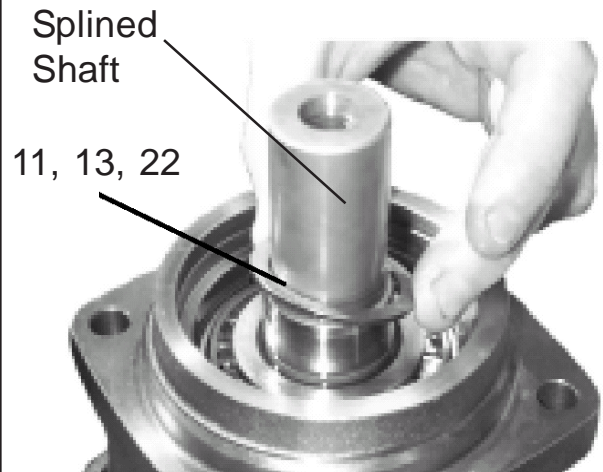

Figure 12
11. Remove Spacer Washer. Under the Snap Ring. Remove any spacer washer under the snap ring, noting their quantity and location. (See Figure 12). Make certain to keep all Spacers in the same order they came off.